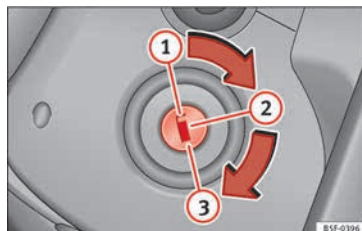

Fig. 184 Ignition key positions.
»» Fig. 184.
- Remove the key from the ignition in position ① »» Fig. 184 »» ⚠.